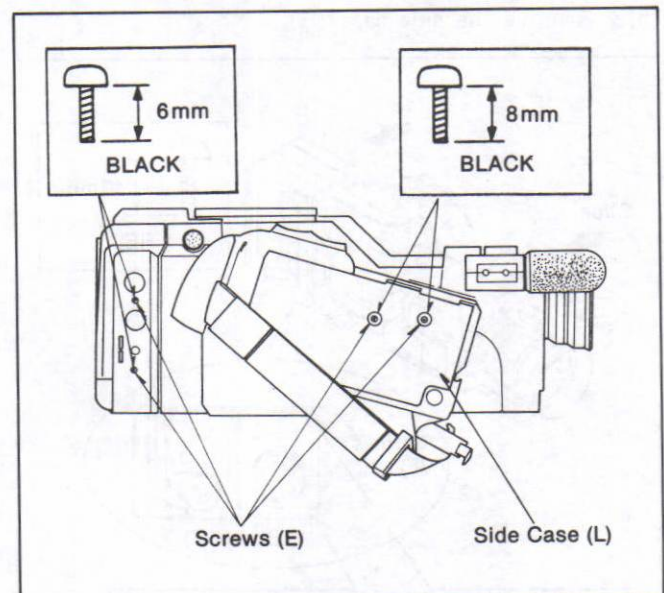
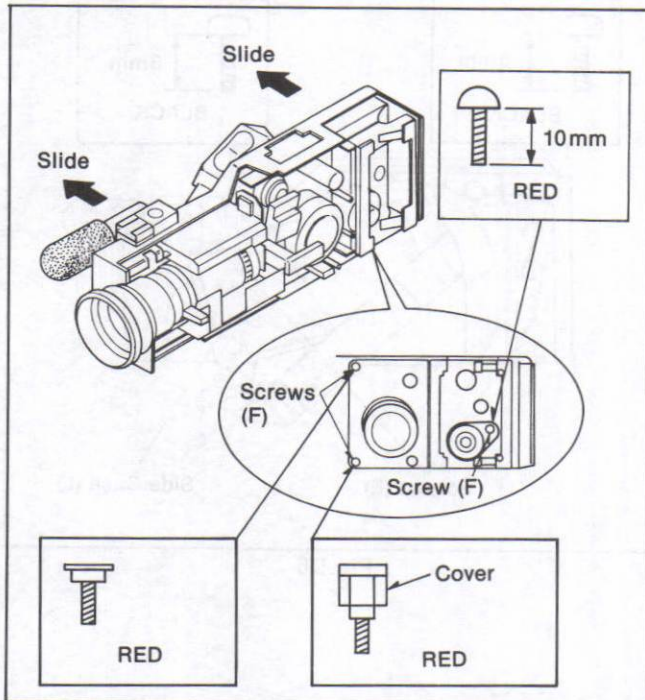

Fig.D6
Fig.D8
- (1). Remove 4 screws (E) as shown in Fig. D6 and 3 screws (F) as shown in Fig. D8.